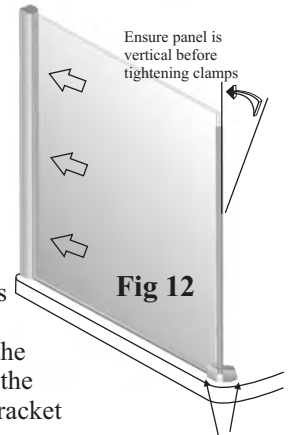

Fig. 12
6.2 Insert large side panel into wall profile glass clamps (see Fig.12) with the soft seal onto the tray and the fitted corner bracket to the front.